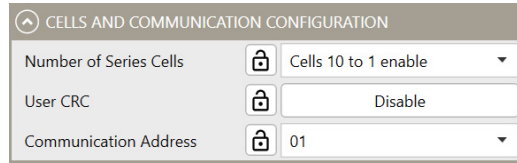

Figure 7: Cell and Communication Configuration
9. Figure 7 shows how to configure the cells and communication parameters.